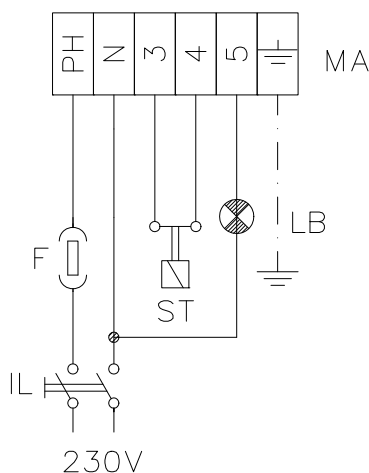
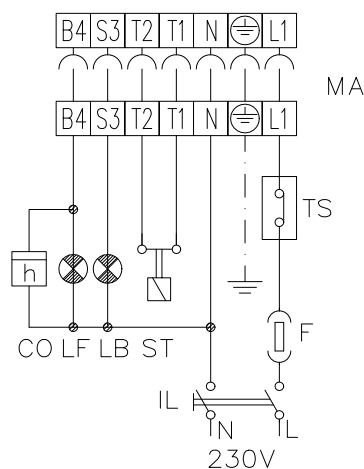

Fig. 5a
Fig. 5b
- make the electrical connections following the schemes in Fig. 5a and Fig. 5b;